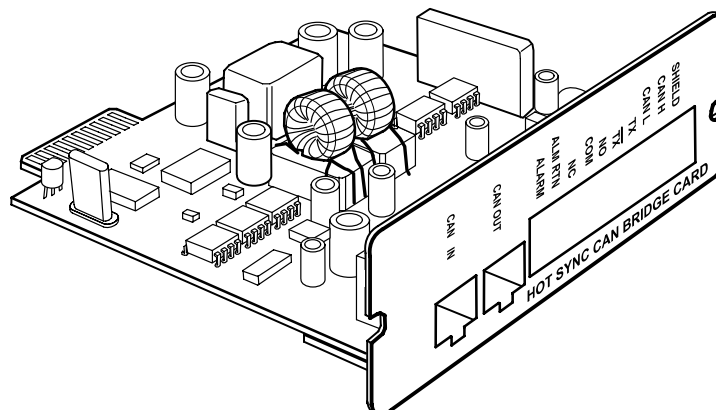

Figure 39. Powerware Hot Sync CAN Bridge Card
2. For each additional UPS being installed, verify that all circuit breakers are in the OFF (O) position.
3. Unpack the Powerware Hot Sync CAN Bridge Card and verify that the card was not damaged during shipment (see Figure 39).